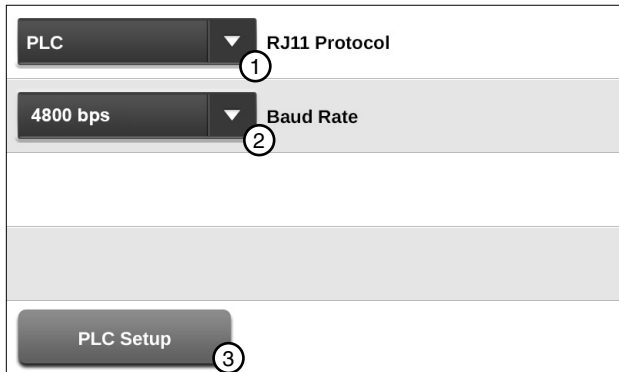

Figure 50-1 1. Protocol Drop-Down
2. Select the Protocol drop-down menu. Refer to Figure 50-1.